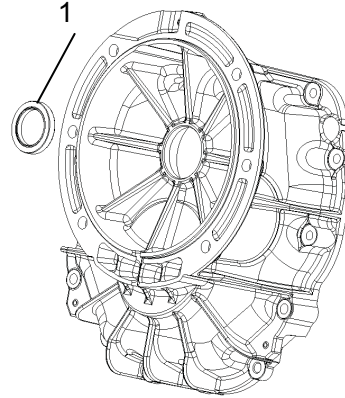

Fig. 6-6
Discard seal and replace with a new seal (Fig.6-6, item1).